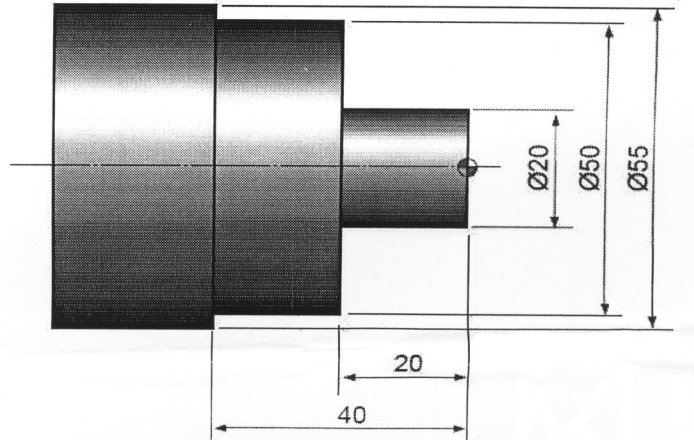

Fig. No. 2
- d) Develop a CNC program using appropriate G and M code to turn component as shown in Fig. No. 2.